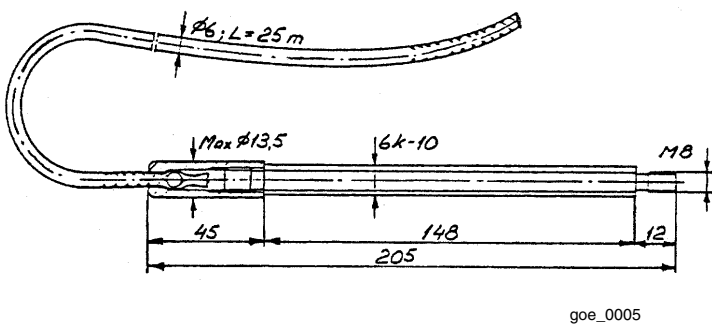

图8. 软拉杆，9760669-A
- 弹性拉带, 9760669-A, 用于安装拉杆, 见图8